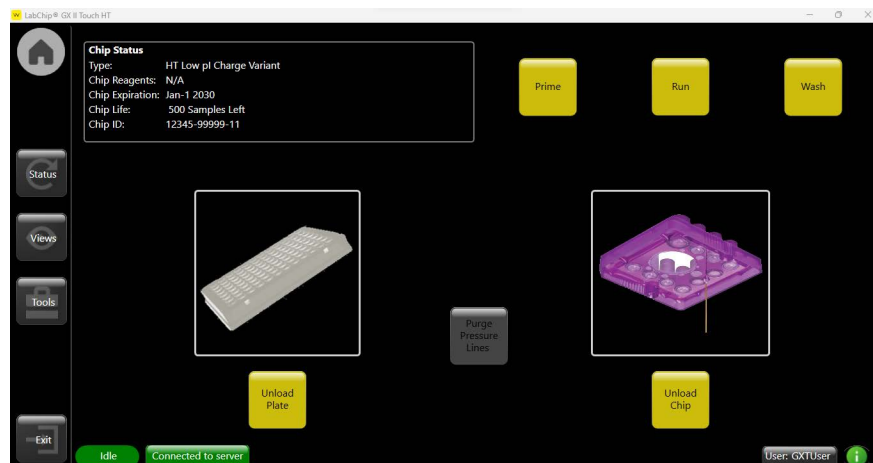
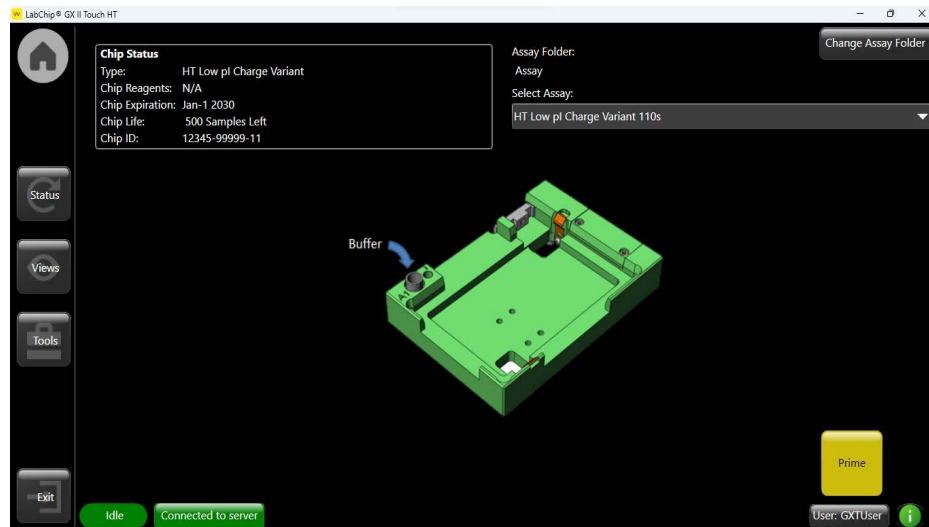

Figure 6. Home Screen
Figure 8. Chip Priming Screen
- 3 Touch the **Unload Chip** button on the **Home** screen (see Figure 6). The Chip door opens.
Note: Chips can be primed independently from running assays on the LabChip GXII Touch instrument. Touch the Prime button on the Home screen (Figure 6). Select the desired assay from the Assay drop-down list. Touch the Prime button on the Chip Priming screen (see Figure 8). Make sure the Buffer Tube is placed on the instrument.
- 1 Touch the **Run** button on the Home screen (see Figure 6 on page 12).